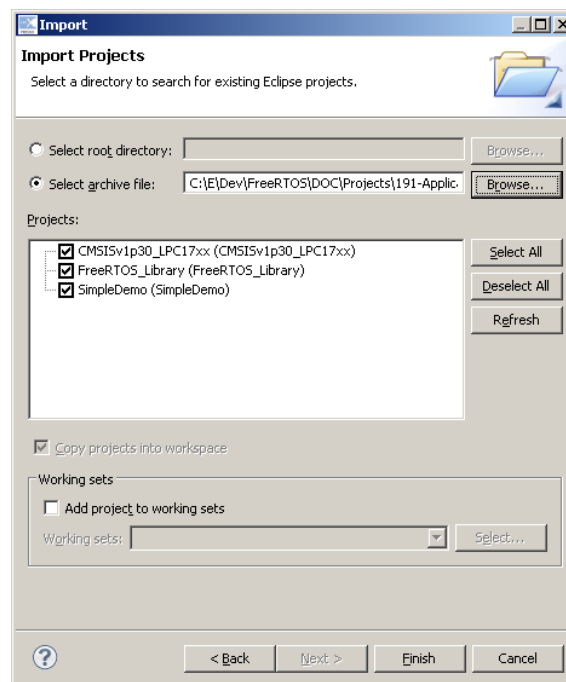

Figure 2. Selecting the .zip archive, assuming the LPC1768 version is being used. The project will be displayed as LPC13xx if the LPC1343 version is being used.
4. Select 'Existing Projects into Workspace' and click 'Next'. The dialog box shown in Figure 2 will open.
6. Click 'Finish'. The three projects shown in Figure 2 will be copied into the workspace directory. If the LPC1343 version is being used then the project will be displayed as LPC13xx rather than the depicted LPC17xx.